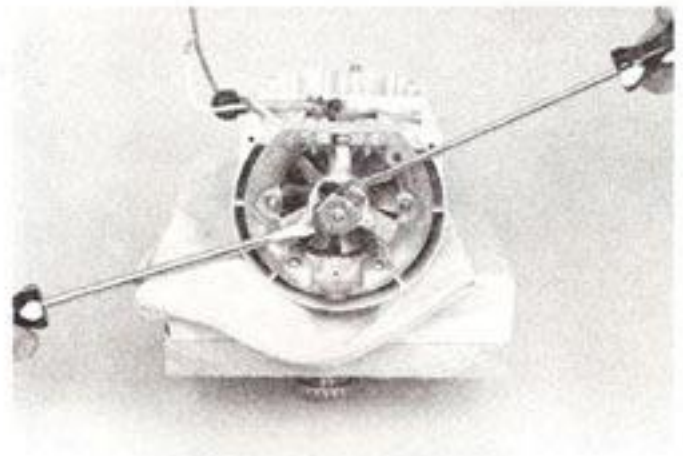

Fig. 21
- C. With two screwdrivers, carefully pry off the governor assembly. Do Not Bend. Remove the governor drive stud and lay it away so it will not be lost (Fig. 21, 22 & 23).